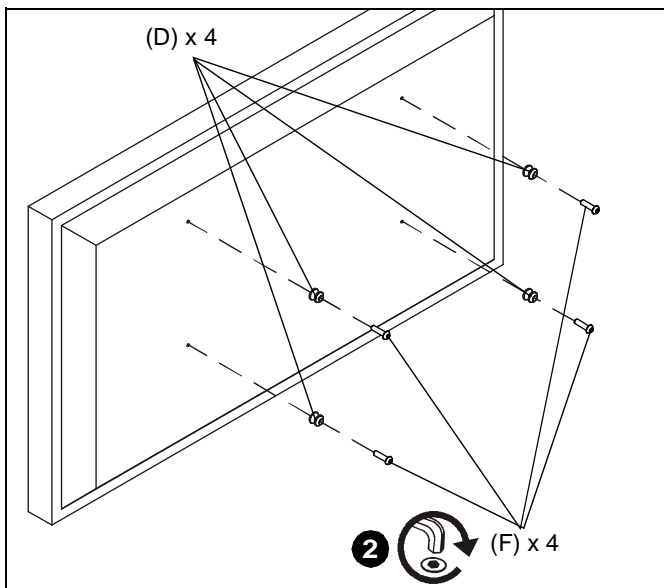

Figure 4
2. Install four mounting buttons (D) onto display using four 1/4-20 x 1-1/8" button head screws (F). (See Figure 4)